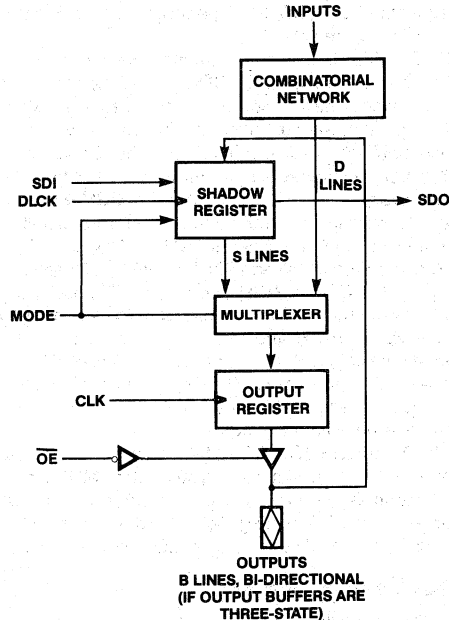

Figure 6. A typical functional block diagram for a diagnostic part
- c) Data on the output pin of the same bit. This data may be the output of the corresponding bit of the output register if there is no output enable pin and the output is enabled, or the input to that pin if there is an output enable pin and output is disabled. Refer to Figure 6 for some general information on a typical diagnostic functional part with output enable (OE).
The diagnostic register is one part in a series of diagnostic products which follows a new standard for diagnostics. The basic standard is described in Figure 6 and the table on page one. This standard implies that all diagnostic parts in this series are cascadable.